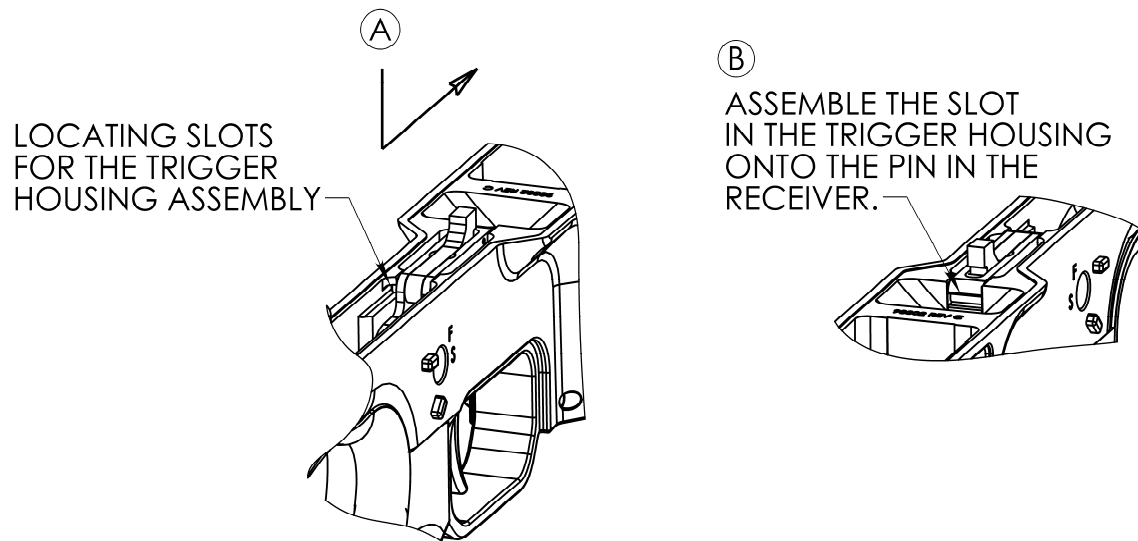

Figure 30. Installation of the trigger housing.
1. Insert the trigger housing assembly into the slot in the lower receiver "A". (Figure 30.) Slide the trigger housing assembly forward and align the front of the trigger housing onto the pin in the receiver "B". Next align the safety hole in the lower receiver and the hole in the trigger housing.